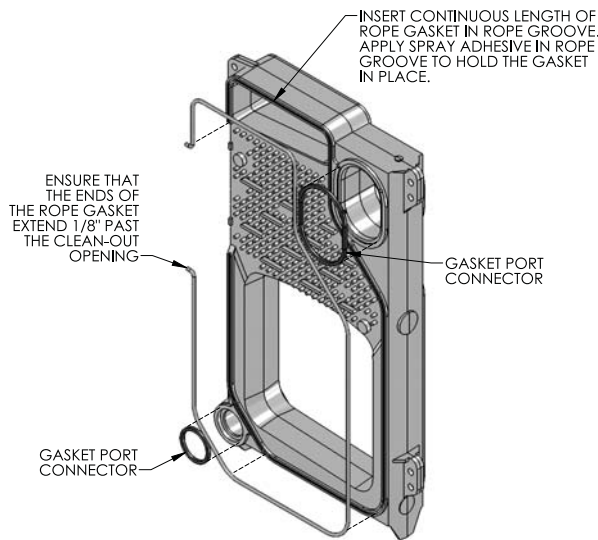

Figure 2.3: Rope Gasket and Port Connector Installation
9. Apply a length of rope gasket (supplied in the section assembly cartons), avoiding bends and twists in the rope. Ensure that the ends of the rope gasket extend past the clean-out cover opening as shown in Figure 2.3.